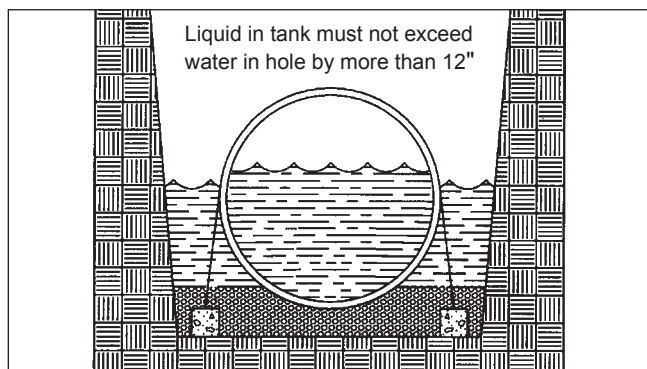

FIGURE 5-2
5.3.7. The ballast level in the tank must either be lower than the backfill material or less than 12 inches above the water level in the hole. See FIGURE 5-2.